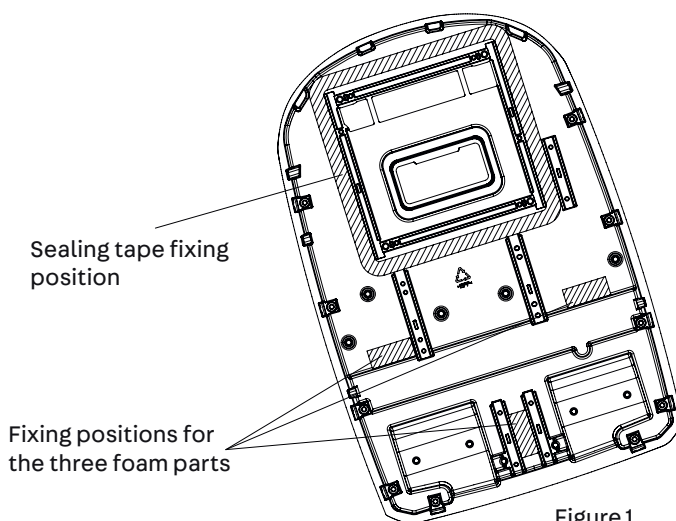

Figure 1
1. Clean the adhesive surfaces (see Figure 1) of the frame of the external unit before affixing to ensure that the adhesive surfaces are free of dirt;
2. Take the sealing tape and the three foam parts from the accessories, remove the paper from the adhesive surface and position the sealing tape and foam parts as in Figure 1.